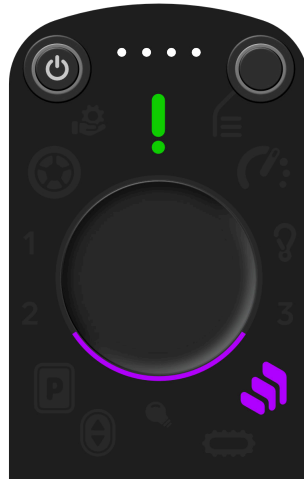

Figure 54. The green information indicator shows that the end of the stairs has been detected and the support system has been extended
At the latest when the center of the wheel axle has reached the edge of the top step (Figure 53, "When the edge of the top step aligns with the middle of the wheel axle, as seen from above, the transition to the upper level has to be triggered manually at the latest!" [70]), the support system should be extended and the information indicator should light up in green (Figure 54, "The green information indicator shows that the end of the stairs has been detected and the support system has been extended" [71]). If this is not the case, you will have to trigger the transition manually. See the section [Triggering end of stairs manually \[67\]](#).
6. **When you have reached the end of the stairs, you need to monitor if the sensors have detected it correctly. As soon as the wheelchair has extended the support system, the information indicator will light up in green (see Figure 54, "The green information indicator shows that the end of the stairs has been detected and the support system has been extended" [71]). At the latest, when the edge of the top step is in the middle of the wheel axle, (Figure 53, "When the edge of the top step aligns with the middle of the wheel axle, as seen from above, the transition to the upper level has to be triggered manually at the latest!" [70]) you must trigger the transition manually.**